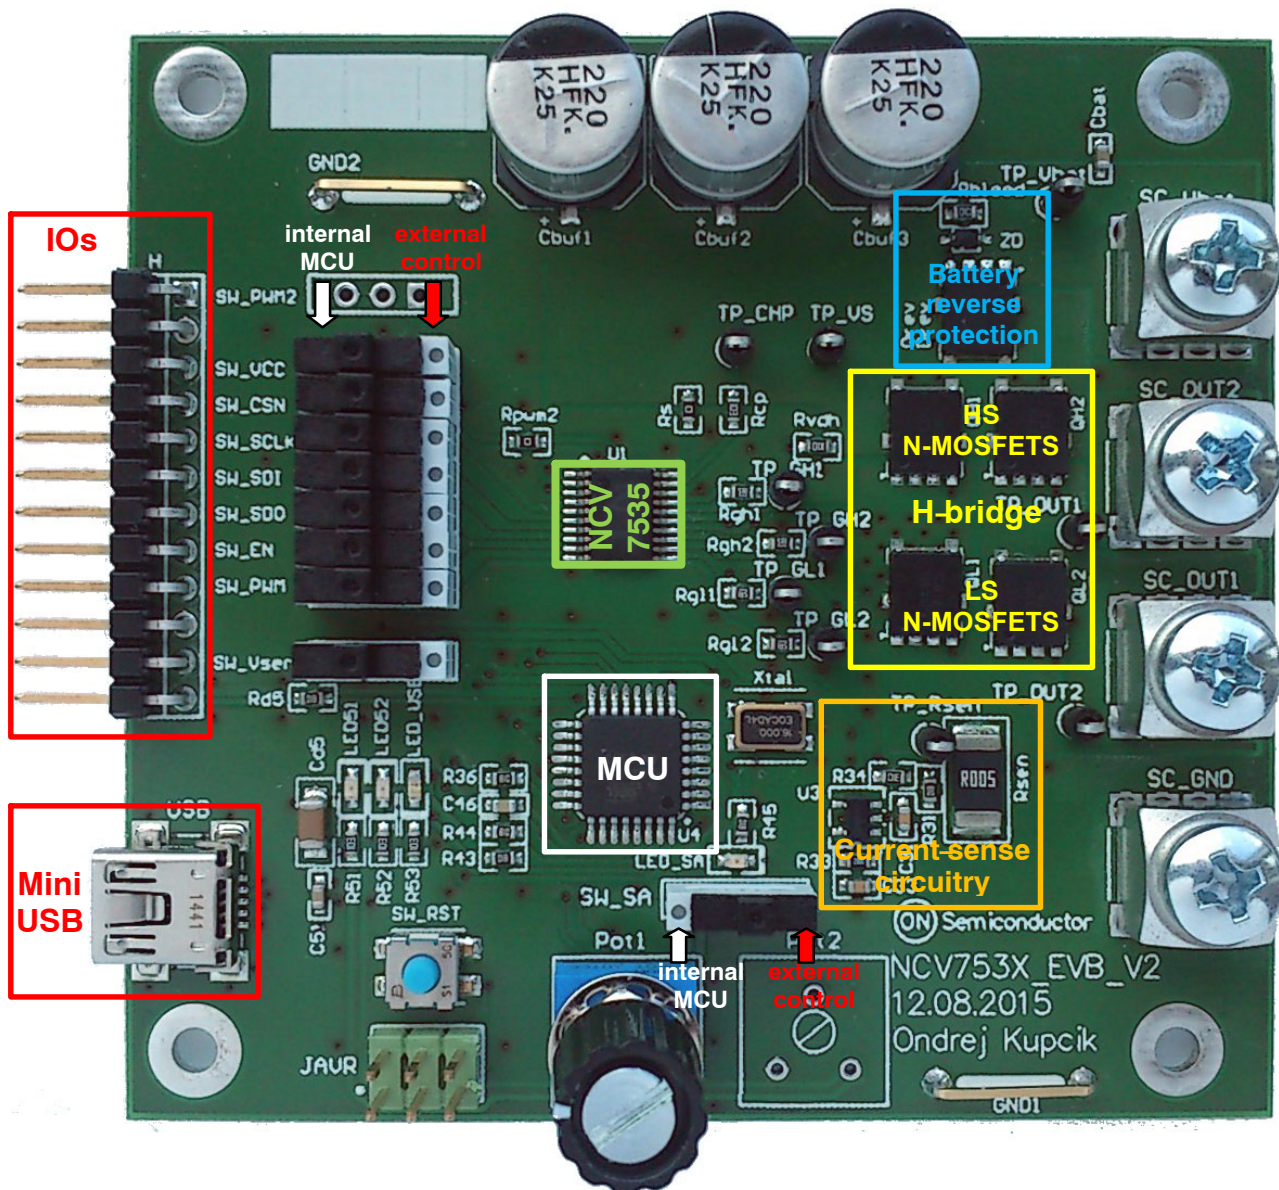

Figure 3. NCV7535 Evaluation Board Picture, Top Side
- ◆ All the slide switches (incl. SW_SA) have to be set to the position as shown in Figure 3.
- ◆ All the switches (incl. SW_SA) have to be set to the position as shown in Figure 3.
1. Move slide switches “SW_xx” to the left position (see Figure 3.)